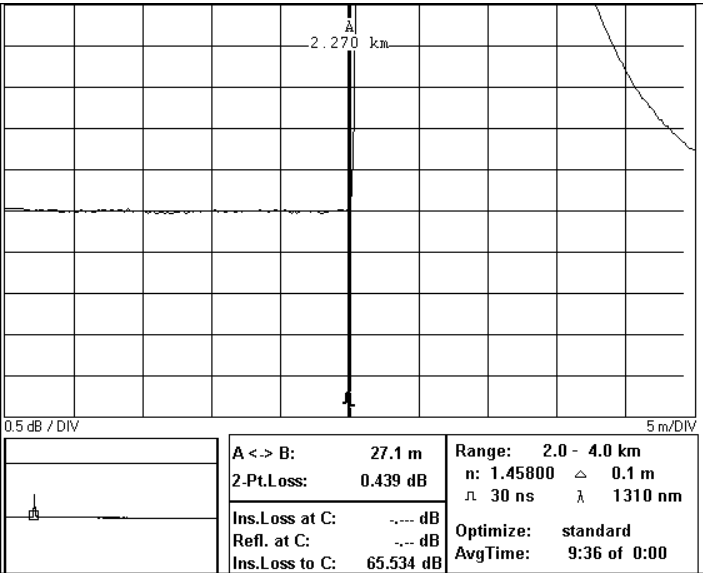

Figure D-9 Attenuation Deadzone Test: Position Marker A at Start of Reflection
- 22 Position marker A at the start of the reflection. See Figure D-9.